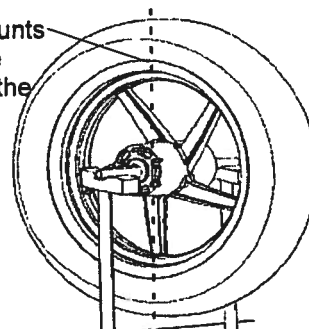

Fig. 16
5. Place balance weights at the lightest portion of wheel in small increments. (Fig. 16)